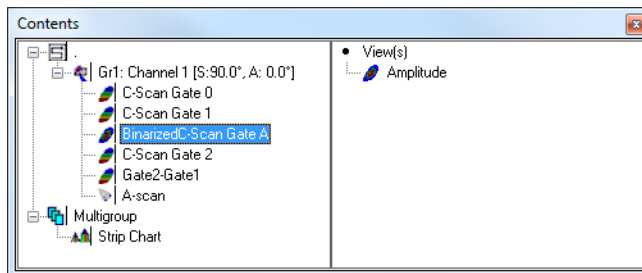
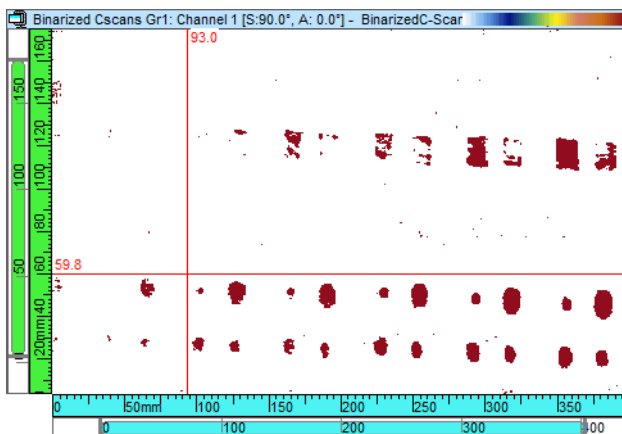

Figure 7-46 The Binarizer Contents dialog box
Figure 7-47 The Binarized data display
8. In the menu, select **View > Contents** and add the Binarized data to the display. See Figure 7-46 on page 382 and Figure 7-47 on page 383.